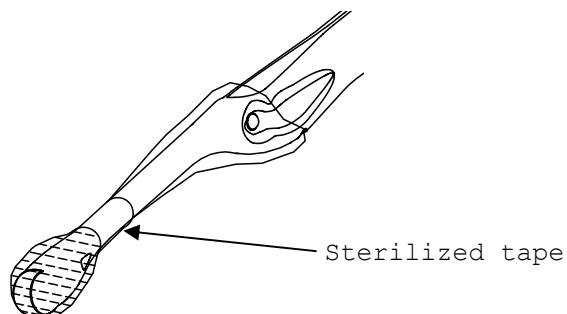

Fig.5 Fix by sterile adhesive tape
- 6) Fix the probe cover with sterile adhesive tape as shown in Fig.5.